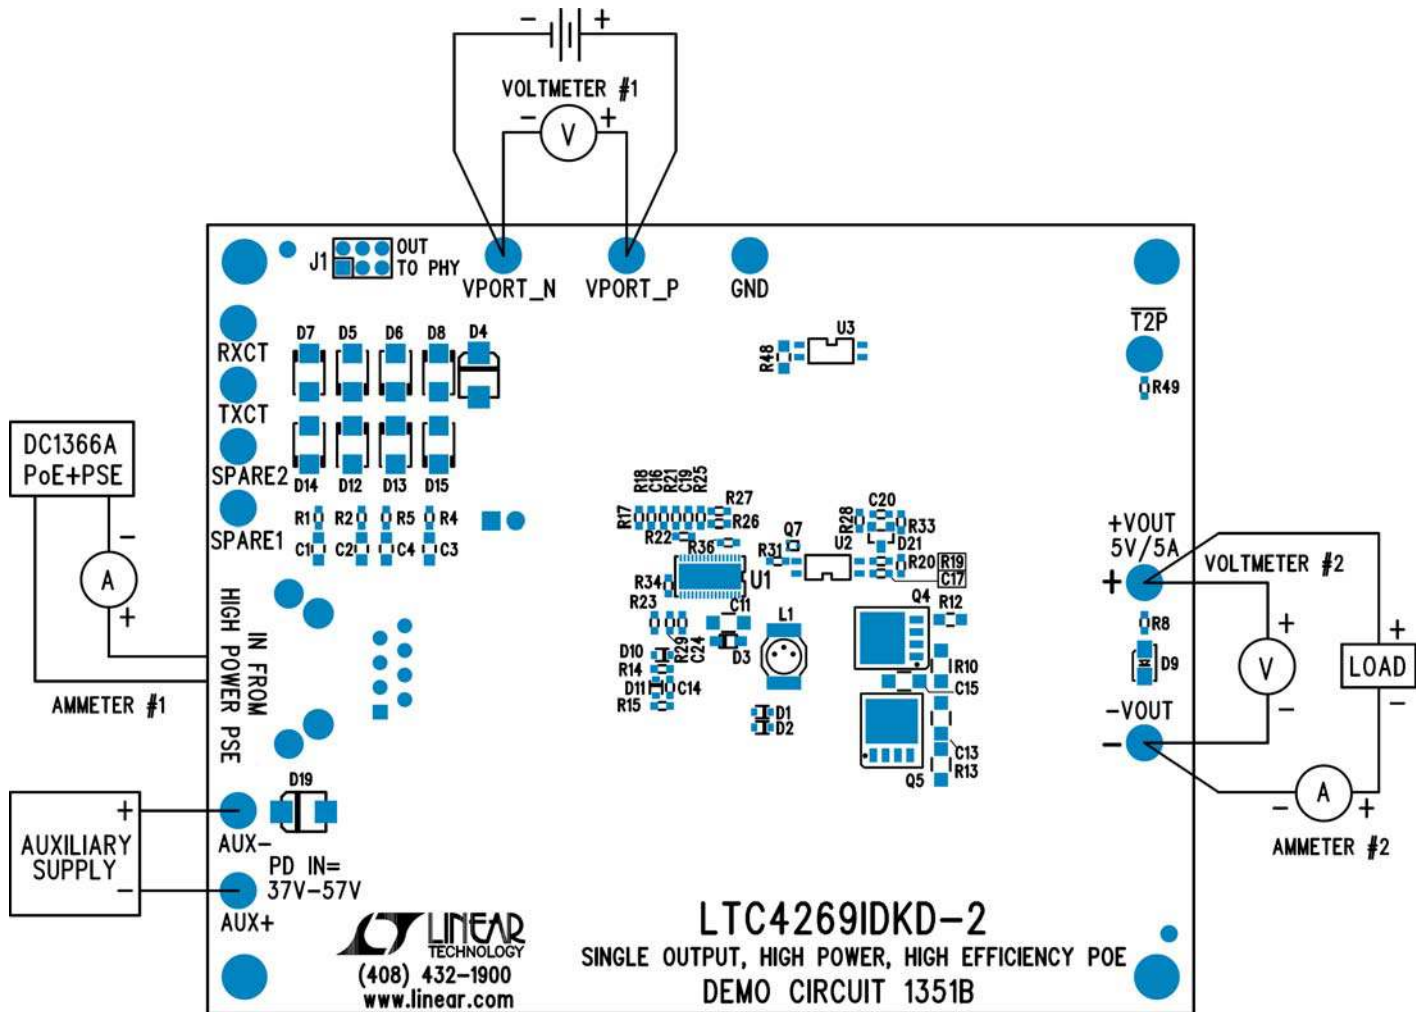

Figure 1. Proper Measurement Equipment Setup
Demonstration circuit 1351B is easy to set up to evaluate the performance of the LTC4269IDKD-2 in a PoE+ PD application. Refer to Figure 1 for proper equipment setup and follow the procedure below:
- a. Connect a PoE+ capable PSE with a CAT-5 cable to the RJ45 connector, J2. See Figure 1.
- b. Or, connect a 37V to 57V capable power supply (“Power Supply” in Figure 1) across  $V_{PORT\_P}$  and  $V_{PORT\_N}$ .
- c. If evaluating the auxiliary power supply (“Auxiliary Supply” in Figure 1) capability, connect a 44V to 57V capable power supply across AUX+ to AUX-.